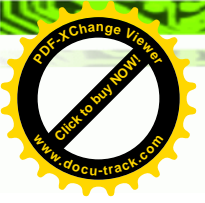

Figure 5-9: Graphics Driver Welcome Screen
**Step 8:** The **Welcome Screen** in Figure 5-9 appears.